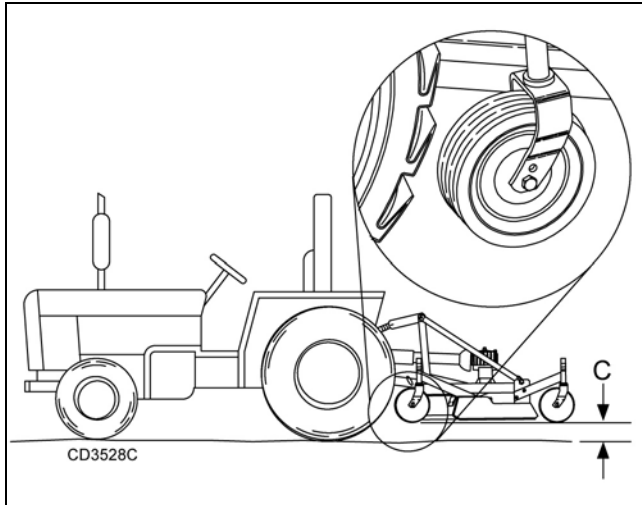

**Figure 7.** Top Link Adjustment
When the cutting height is set, adjust tractor top link until mower top link attachment point (A) is aligned vertically with mower hitch pin (B), Figure 7.
The mower has three lower hitch plate attachment points (D), Figure 7. It may be necessary to change the mower hitch plate attachment point to obtain proper tire clearance and/or lift height.
3. If there is interference adjust mower hitch arm (E) as shown in Figure 7.